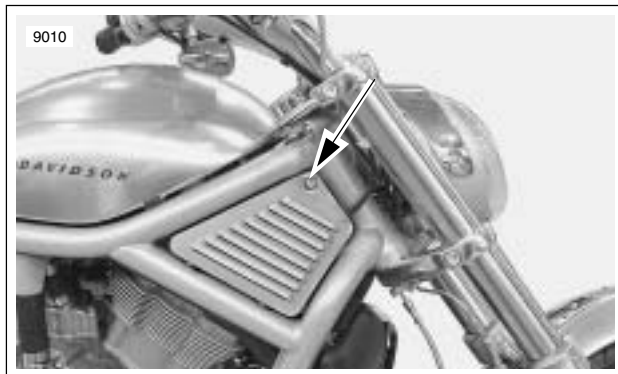

Figure 6-1. Removing Sidecover
1. See Figure 6-1. Remove fastener at upper corner of louvered cover and remove cover.
3. See Figure 6-1. Reinstall sidecover and secure with screw. Tighten to 4.1-6.8 Nm (30-60 in-lbs).